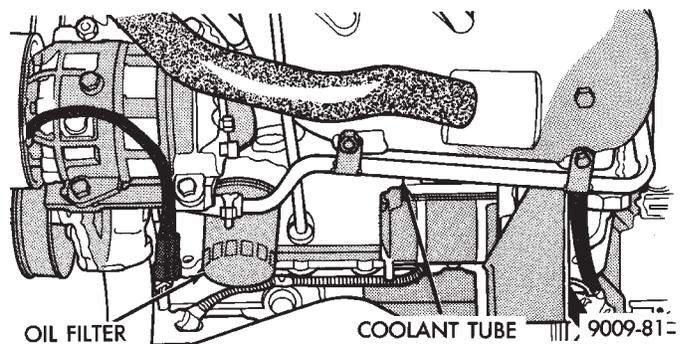

Fig. 14 Oil Filter
(1) Using Tool C-4065, unscrew filter from base and discard (Fig. 14).
(2) Wipe base clean, then inspect gasket contact surface.
(3) Lubricate gasket of new filter with clean engine oil.
(4) Install and tighten filter to 20 N·m (15 ft. lbs.) torque after gasket contact base. Use filter wrench if necessary.
(5) Start engine and check for leaks.